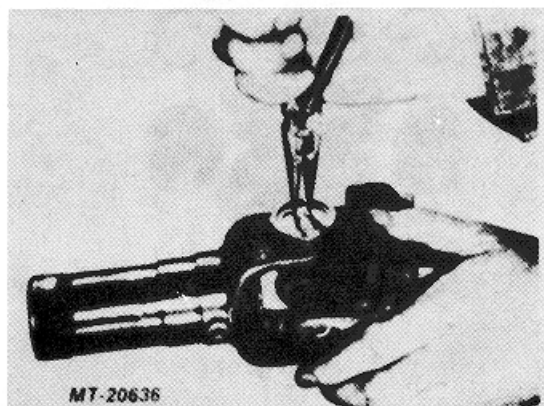

Fig. 24
1. **SNAP RING** - Remove by pinching the ends together with a pair of pliers. If a ring does not readily snap out of the groove in the yoke, tap the end of the bearing cap lightly to relieve the pressure against the ring (Fig. 24).